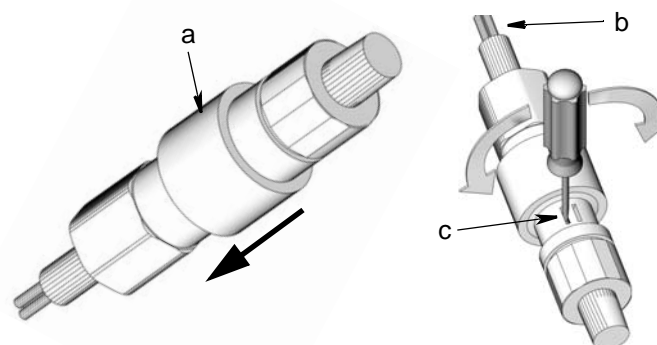

FIG. 1
- Slide adjustment cover (a) (open) toward cable. It may be necessary to twist cover to overcome friction (FIG. 1).
- With the cable (b) facing up, insert the blade of a flat screwdriver into the adjustment slot (c) (FIG. 1).